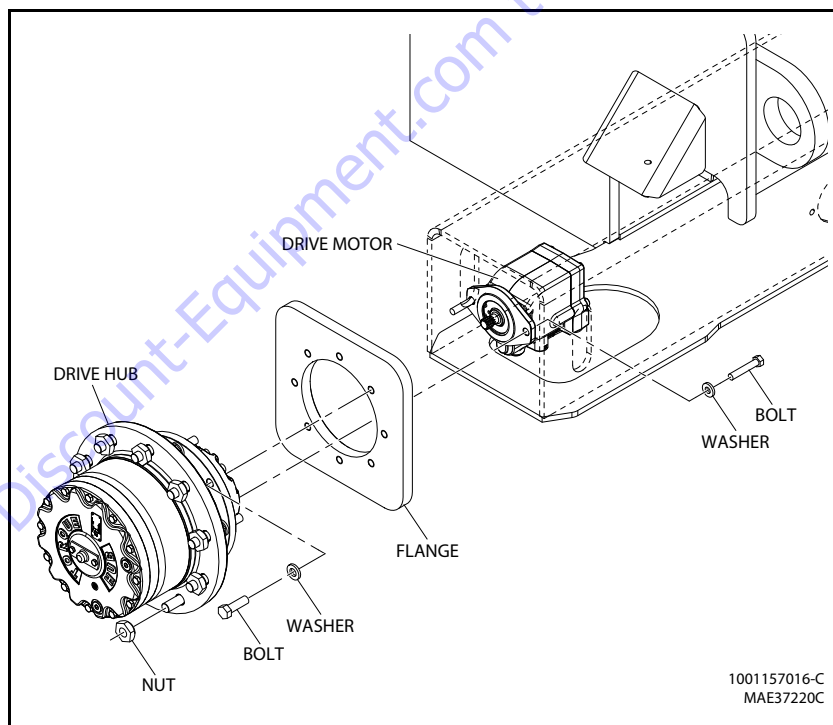

Figure 3-4. Drive Hub Removal and Installation
**NOTE:** Refer Figure 3-4., Drive Hub Removal and Installation.